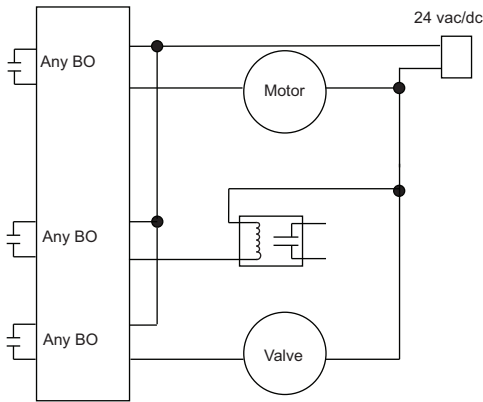

Fig. 3 — Connect Binary Output Wiring Screw Terminals
4. Connect the binary output wiring to the screw terminals on the UC Open XP and to the controlled device. See Fig. 3 to view the binary output wiring terminals.